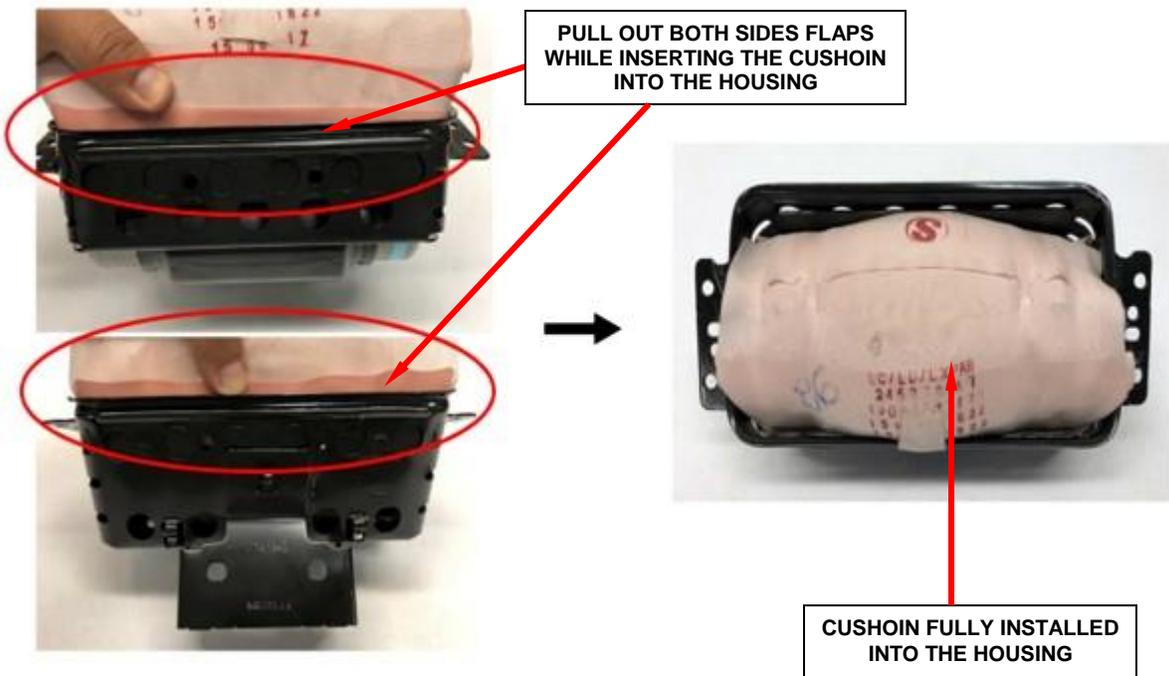

Figure 57 – Side Flaps Must Be Held Out
- 1. Insert the cushion, pulling out both side flaps (Figure 57).